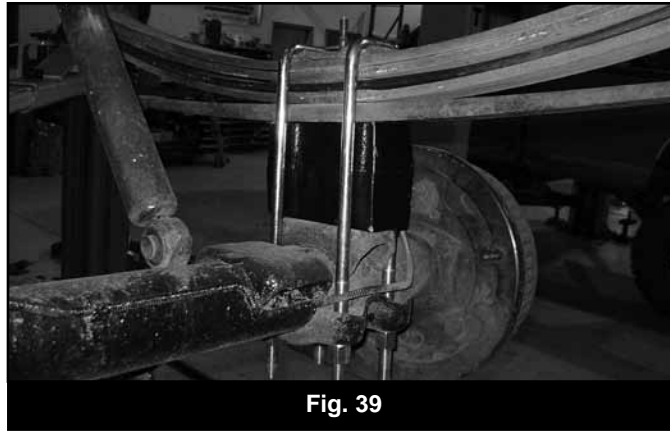

Fig. 39
15. Install the provided u-bolts, nuts and washers and snug the assembly together. Final u-bolt torque will be performed with the vehicle on the ground (Fig 39).